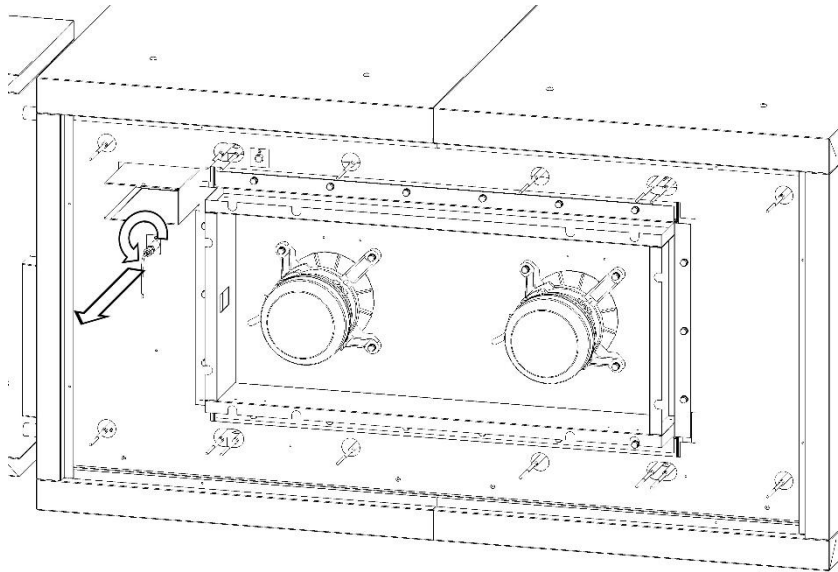

Fig.11B
- 5.Using a wrench 12 loosen the mounting nut of the support and remove the probe (Fig.11B).